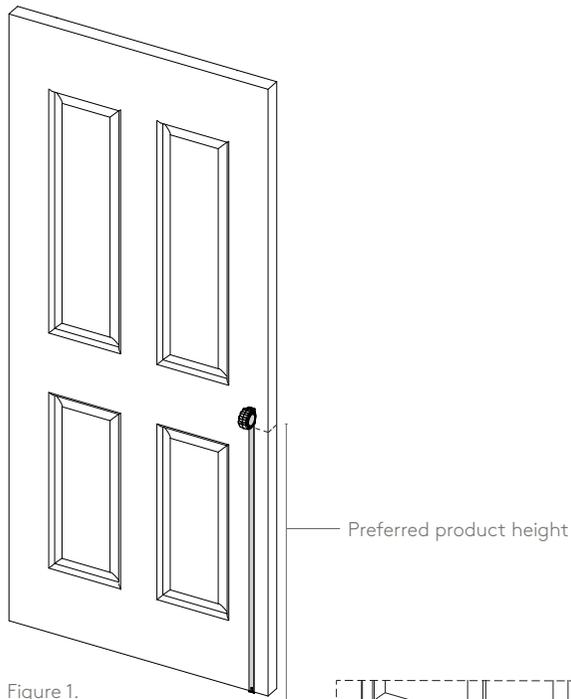

Figure 1.
- 1.1. Mark the edge of your door at the desired height of your handle. (Figure 1)